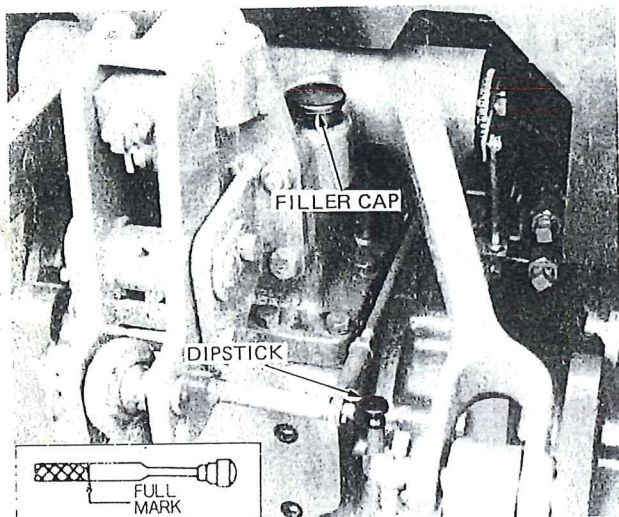

Figure 45 — Transmission, Rear Axle and Hydraulic System Oil Level Dipstick and Filler Cap
1. With the tractor standing level and the engine off, check the oil level with the dipstick, Figure 45.
2. Remove the filler cap, Figure 45, and fill with new oil of the type specified, page 26.